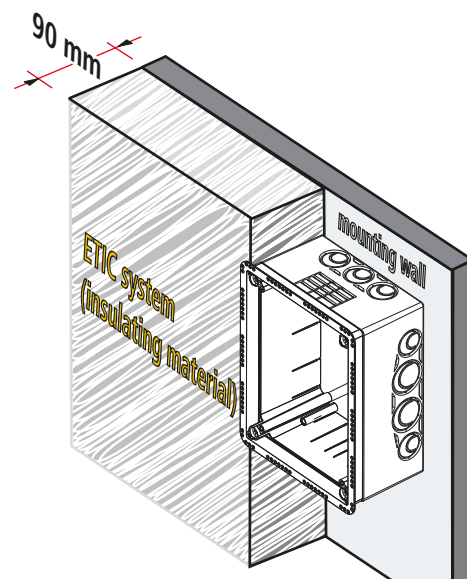

Fig. 1a
The telescopic test joint box (Part No. 476 050) is specifically designed for proper integration in external thermal insulation composite systems (mineral or polystyrene insulating material). The test joint box (also in combination with a spacer (Part No. 476 053 or a set (Part No. 476 055) ensures mounting heights (flush with the insulating material) of 90 to 320 mm (see Fig. 1a, 1b, 1c).
- ➔ Wall mounting of the test joint box (see Fig. 1a and 1b)